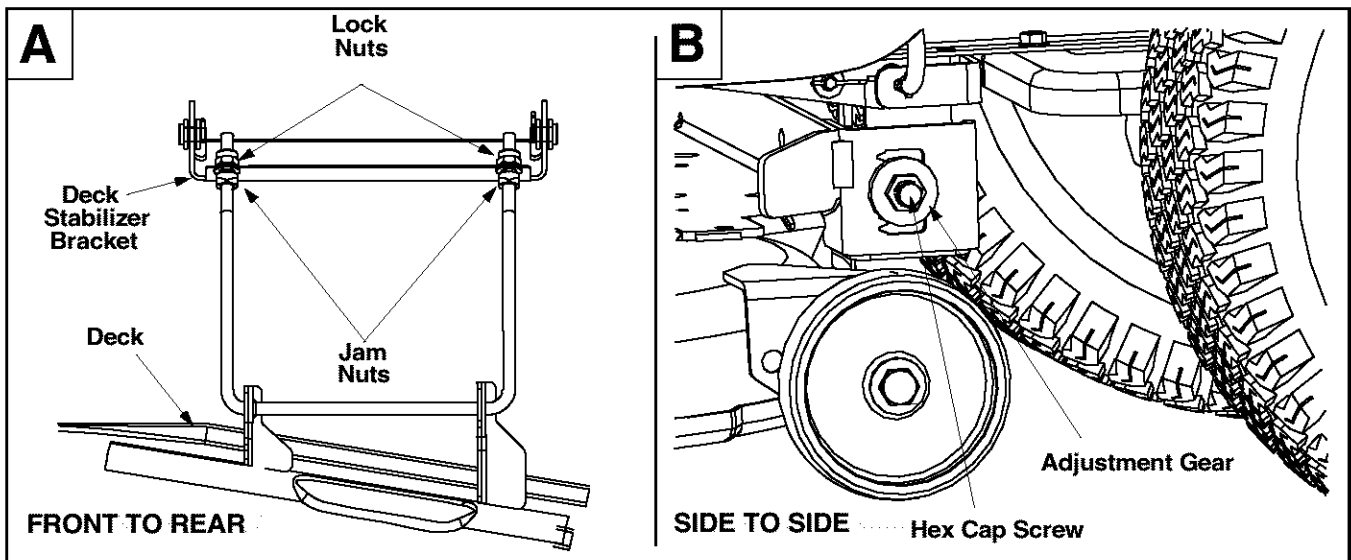

Figure 11
- Loosen the two jam nuts on the rear side of the deck stabilizer bracket. See Figure 11.
- Locate the two lock nuts on the opposite side of the stabilizer bracket. See Figure 11. Tighten the lock nuts to raise the front of the deck; loosen the lock nuts to lower the front of the deck.